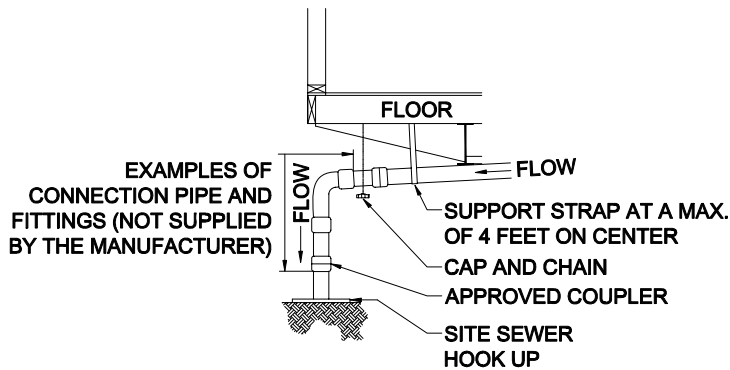

Figure 49. DWV connection to sewer/septic
4. **Connect to outlet.** Connect the main drain line to the site sewer/septic hook-up, using an approved elastomer coupling (**Figure 49**).